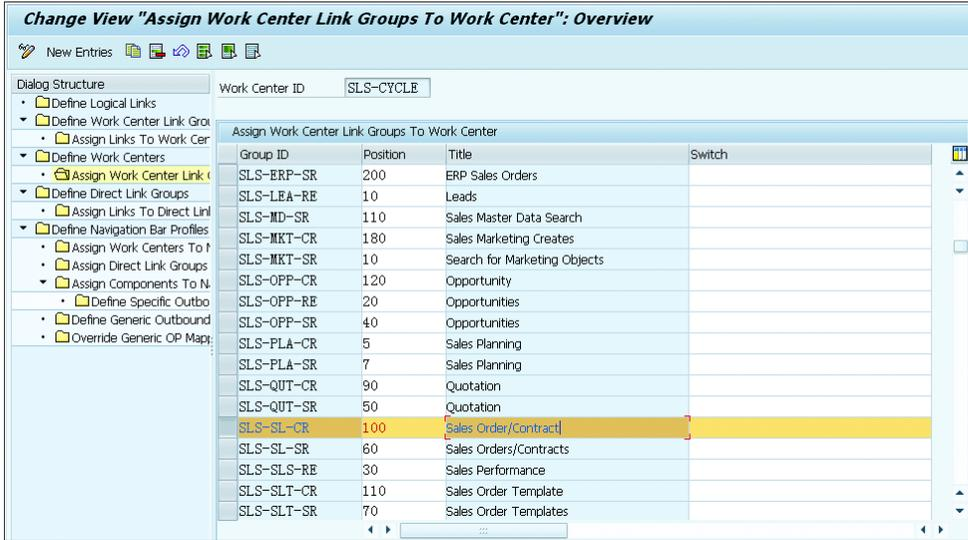

Figure 8.36 Assigning Work Center Link Groups to a Work Center
6. After you've created the work center, assign the work center group to the work center (see Figure 8.36). The creation of the work center link group was covered in step 3.